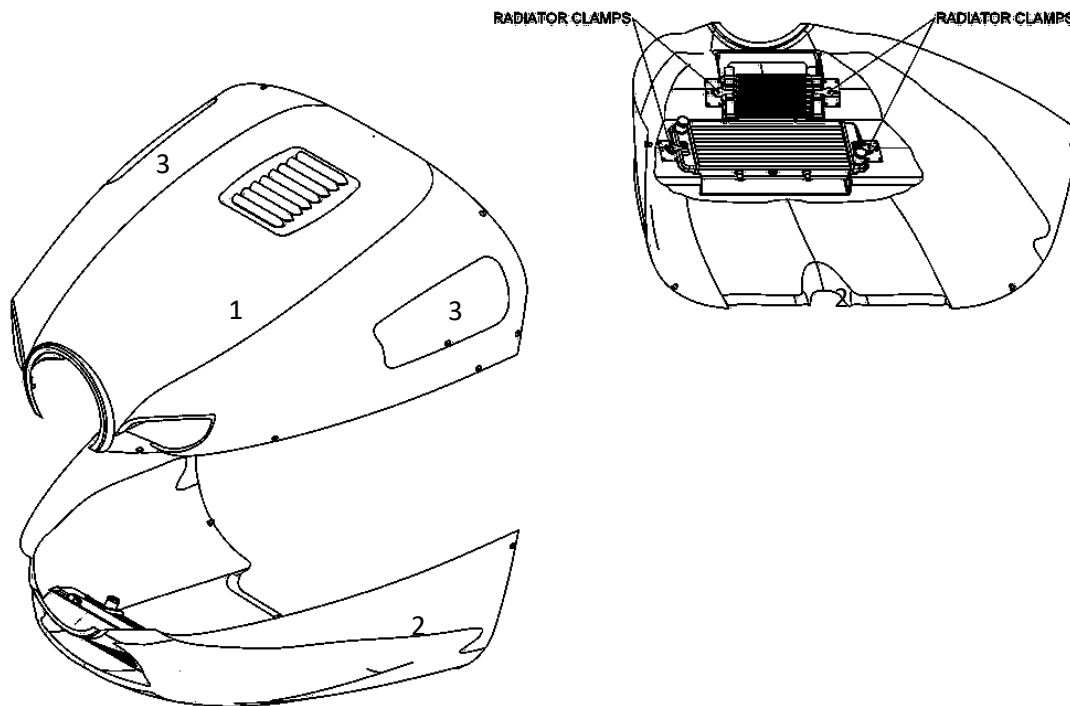

Figure 42: Engine cowling.
Refer to Figure 42. The engine cowling is made up of moulded fibreglass upper (1) and lower (2) parts. Inspection panels (3) are located in the top cowling and are secured down by two Dzus fasteners. The cowling houses the engine, air filter, coolant radiator, oil radiator and oil reservoir. Air to the air filter is provided through the starboard side intake. Circulation over the engine is provided by the front nose intakes. Additional circulatory air is supplied through the coolant and oil radiators. The outflow area is on the underside of the cowling, by the firewall.
2. Disconnect the air filter supply pipe (1) from the cowl side inlet (2) by loosening the clamp (3) securing it to the inlet.
4. Release the four catches (4), one on each side of the coolant (5) and oil radiators (6). Also refer to Figure 42.